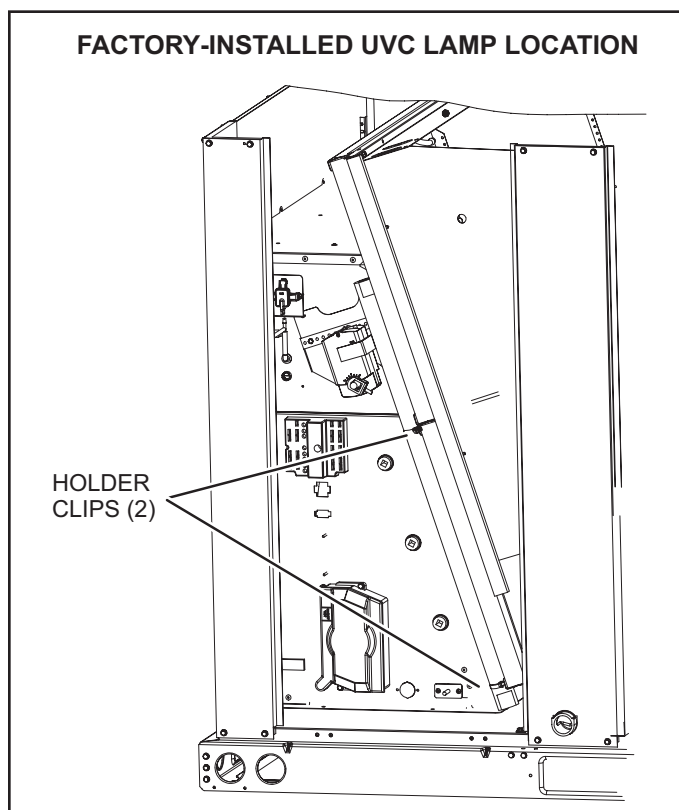

FIGURE 45
- 1 - Cut wire ties and remove the UVC lamp attached to the filter rack. See FIGURE 45.